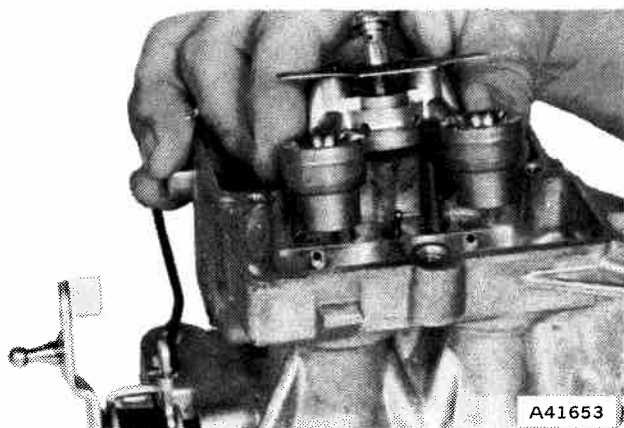

Fig. 4-44 Removing Booster Venturi Assembly
(13) Remove accelerator pump discharge screw, air distribution plate, booster venturi and gasket (fig. 4-44). Invert main body and let accelerating pump discharge weight and ball fall into hand.